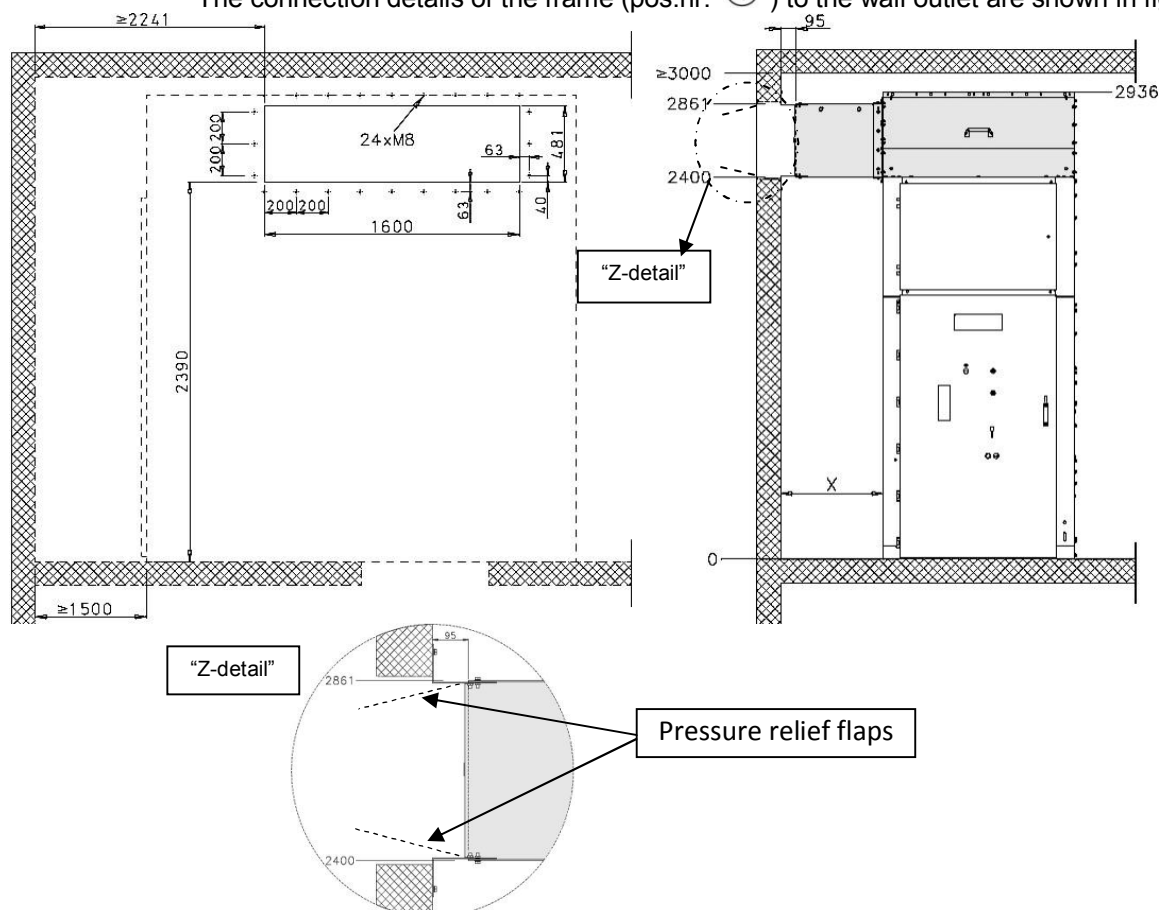

Fig49. Wall opening details for lateral exit
The connection details of the frame (pos.nr. ①) to the wall outlet are shown in fig49.
Make sure that the pressure relief flaps (shown at fig49 and 53) are mounted after the closed pressure exhaust channel assembly to be able to keep the degree of protection IP4X of the complete switchgear according to IEC 60529.